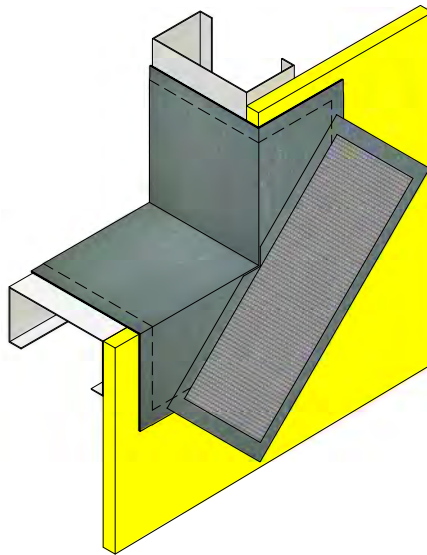

Figure 9
5. Cut SHEATHING FABRIC to desired size. Place the SHEATHING FABRIC into the wet SENERSHIELD-R OR SENERSHIELD-VB. (See Figure 9)